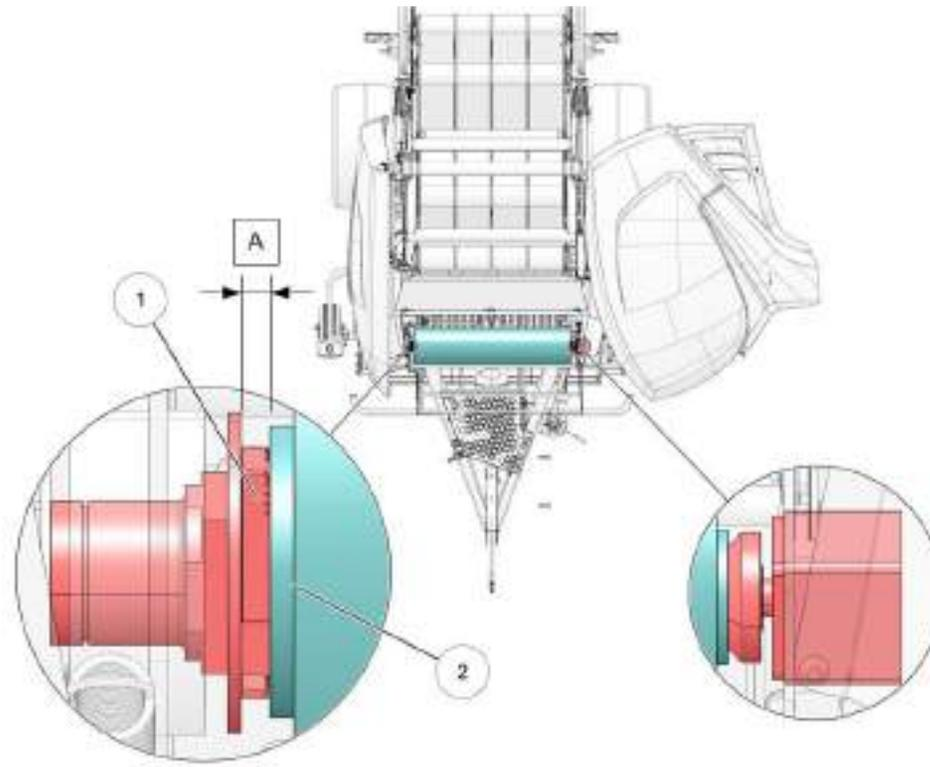

Figure 43. Check distance core position
5. Make sure the crank handle should not go all the way to stop. There should be a gap between the inner washer(2) (see Figure 43 on page 7-20) and the extruding bearing (1) of a distance of 3/8–1/2”(A). Overtightening will cause bearing failure or weld breakage.